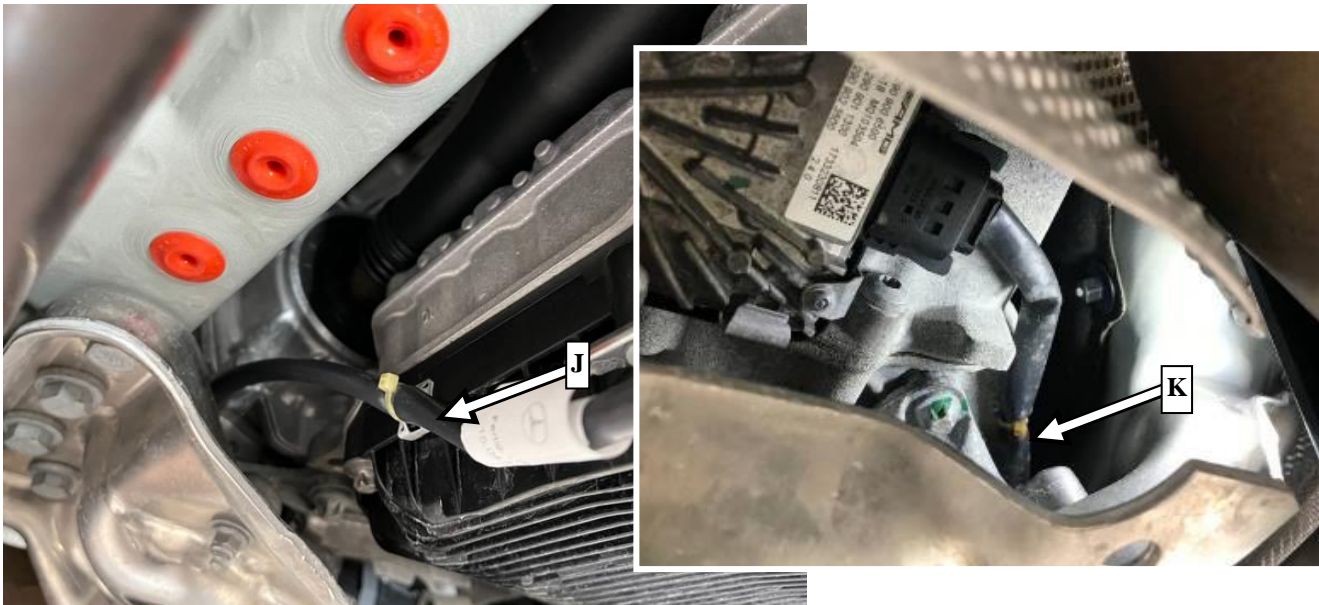

Figure 14
15. Clip the retaining clamp onto the rib of the oil pan of the transmission (**Figure 14, J**), clip the retaining clamp onto the rib of the transfer case (**Figure 14, K**) and connect the connector coupling of the transfer case control unit (N45).